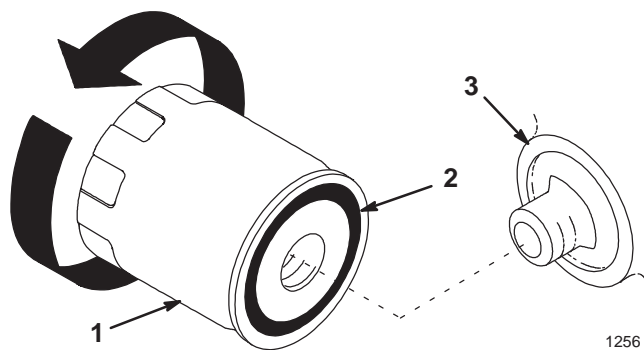

Figure 20
- Remove the old oil filter and wipe off the adapter gasket surface (Fig. 20).
- Apply a thin coat of new oil to the rubber gasket on the new oil filter (Fig. 20).
- Tighten the oil filter an additional 1/2 to 3/4 turn (Fig. 20).